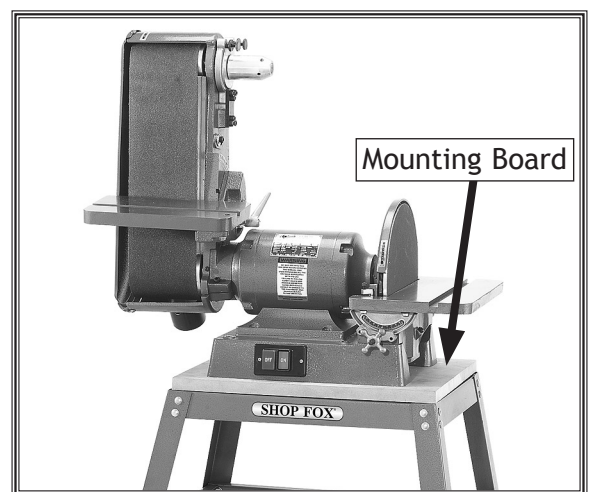

Figure 6. Sander mounted to Model D2275 stand.
6. Attach the machine to the mounting board (see **Figure 6**) by fastening it directly with lag bolts and washers, or by using hex bolts, flat washers and hex nuts in a similar manner as you attached the mounting board in **Step 4**.